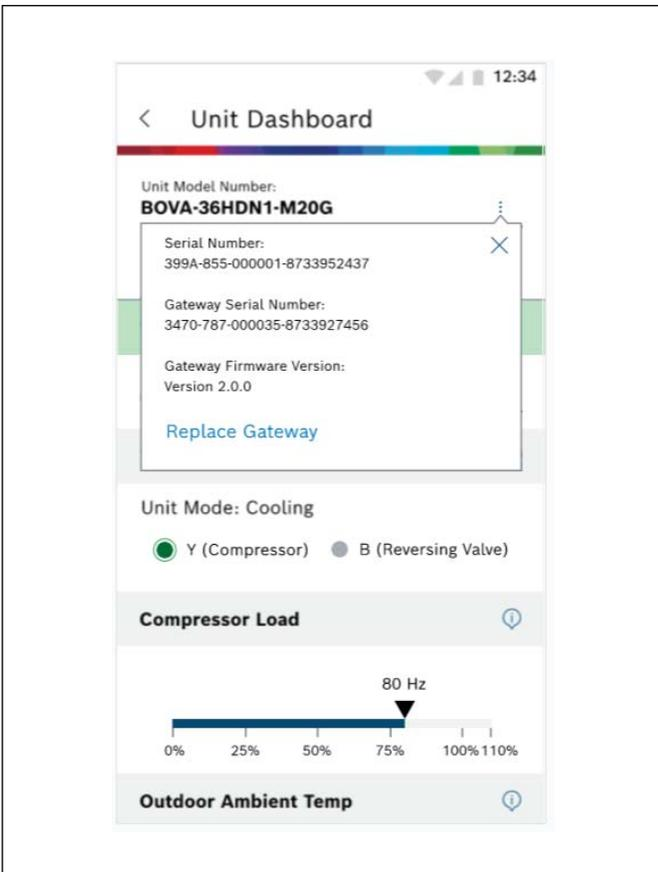

Figure 16
- 21. Tap on the three vertical dots located on the top right of the screen and tap on Replace Gateway (Refer to Figure 16).